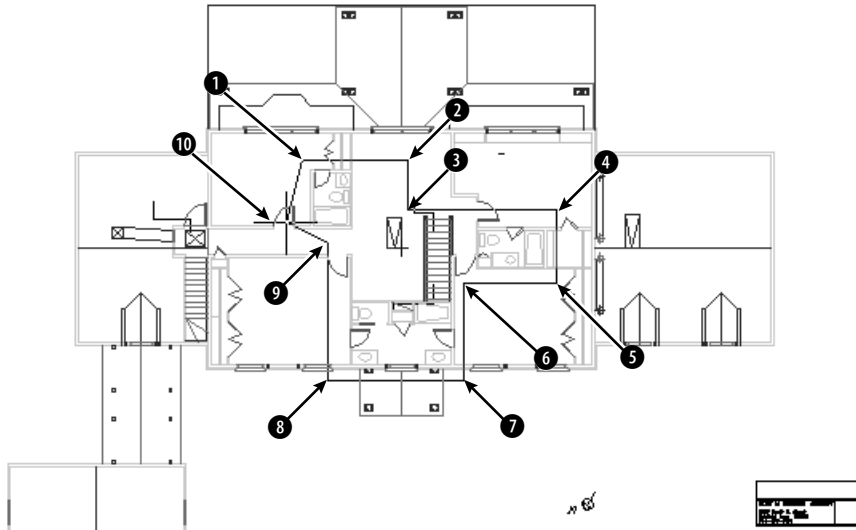

**Figure 19-11:** Picking a polygonal boundary to clip an xref.
5. Open `ab19-02.dwg` from your AutoCAD Bible folder. This drawing has an attached xref of a house plan and a nested xref of a title block, as shown in Figure 19-11.
Select objects: *Pick anywhere on the xref in Figure 19-11.*
Specify first point: *Pick ❶ in Figure 19-11.* (It might help to turn off OSNAP if it is on.)